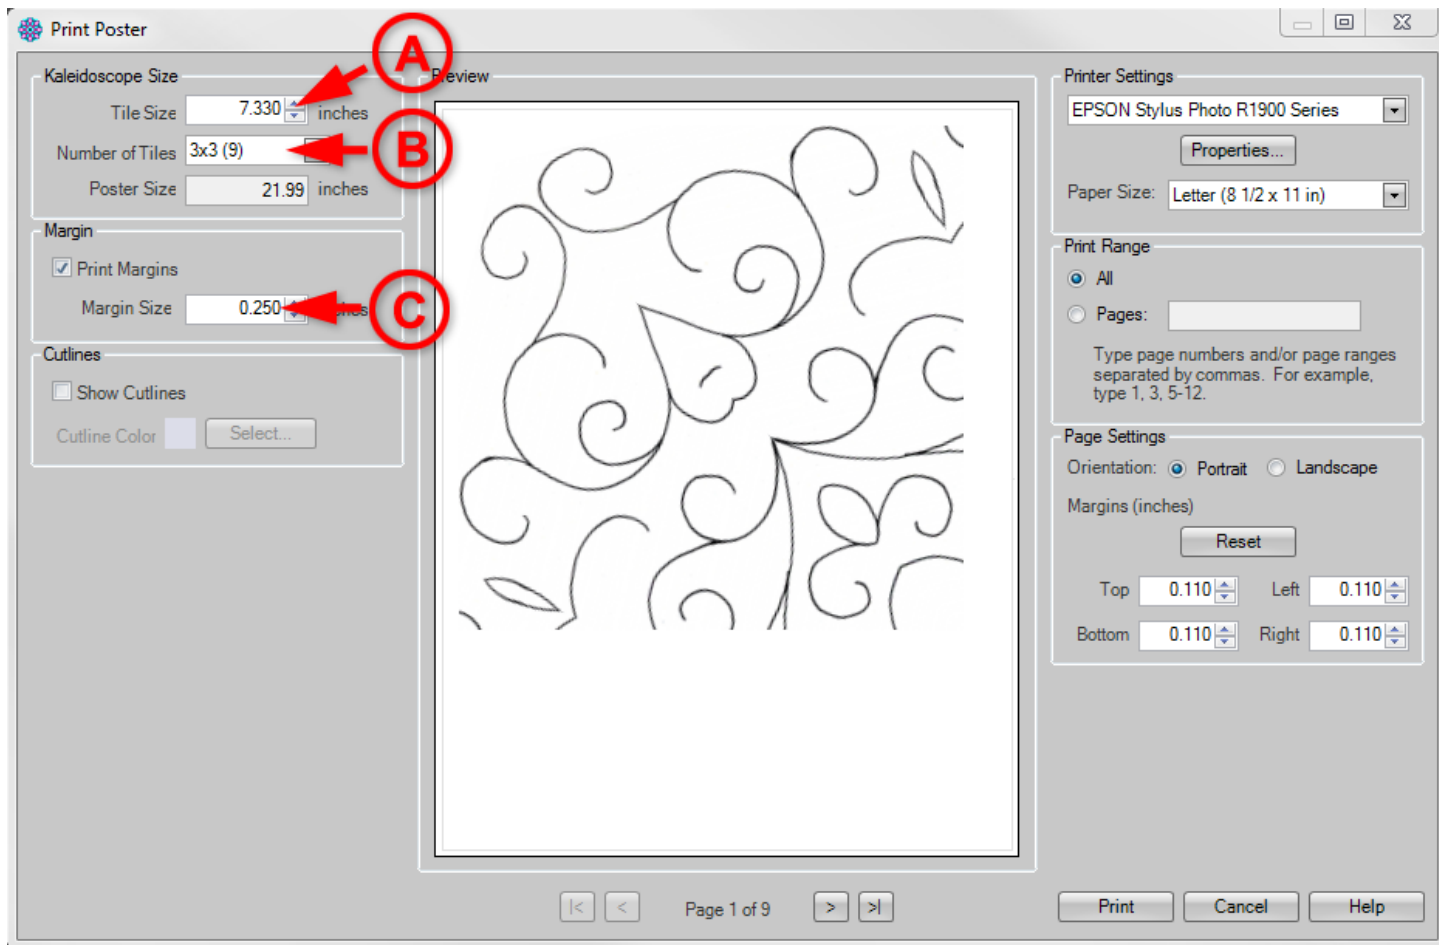

Figure 3
6. Print the kaleidoscope at 22" - a size that fits well in the capelet pattern. Choose **File>Print Poster...** from the menu (or click on the little down arrow next to the printer icon in the Toolbar and choose **Print Poster.**) (Fig. 3)
- B. Set the **Number of Tiles** to *3x3 (9)*.